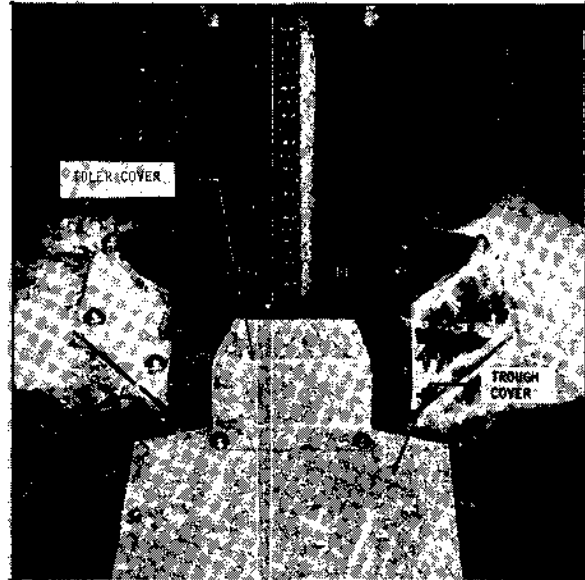

Fig. 21
38. Install trough cover and idler covers with four (4) 3/8-16 x 1/2" hex head screws, washers, and lockwashers. (See fig. 21).